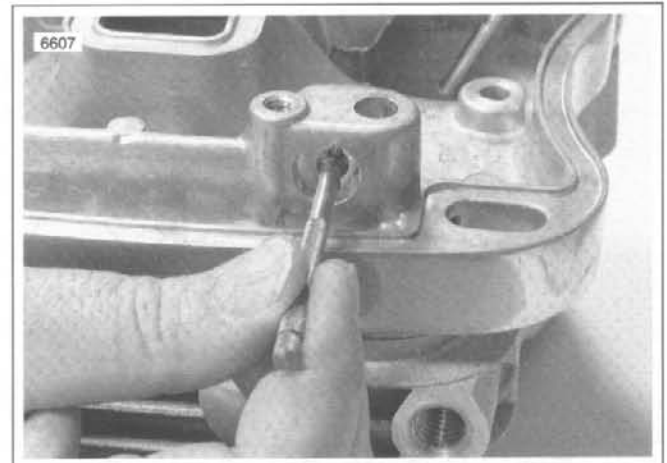

Figure 3-14. Measuring Rocker Arm Shaft Bore Diameter in Lower Rocker Cover
- a. See Figure 3-14. Measure bore of lower rocker cover.